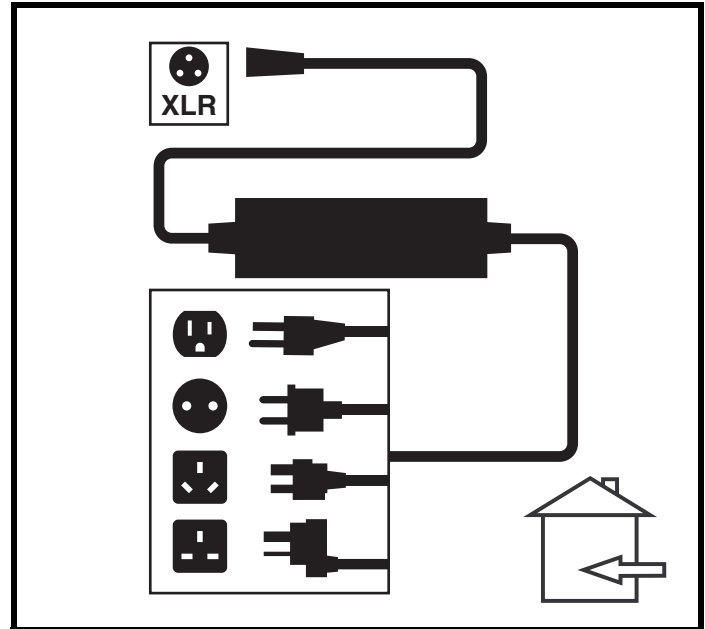

Figure 16. Battery Charging
1. Position the front of your power chair next to a standard electrical outlet. See figure 16.
3. Plug the off-board charger into the off-board charger/programming socket on the controller. See figure 16.